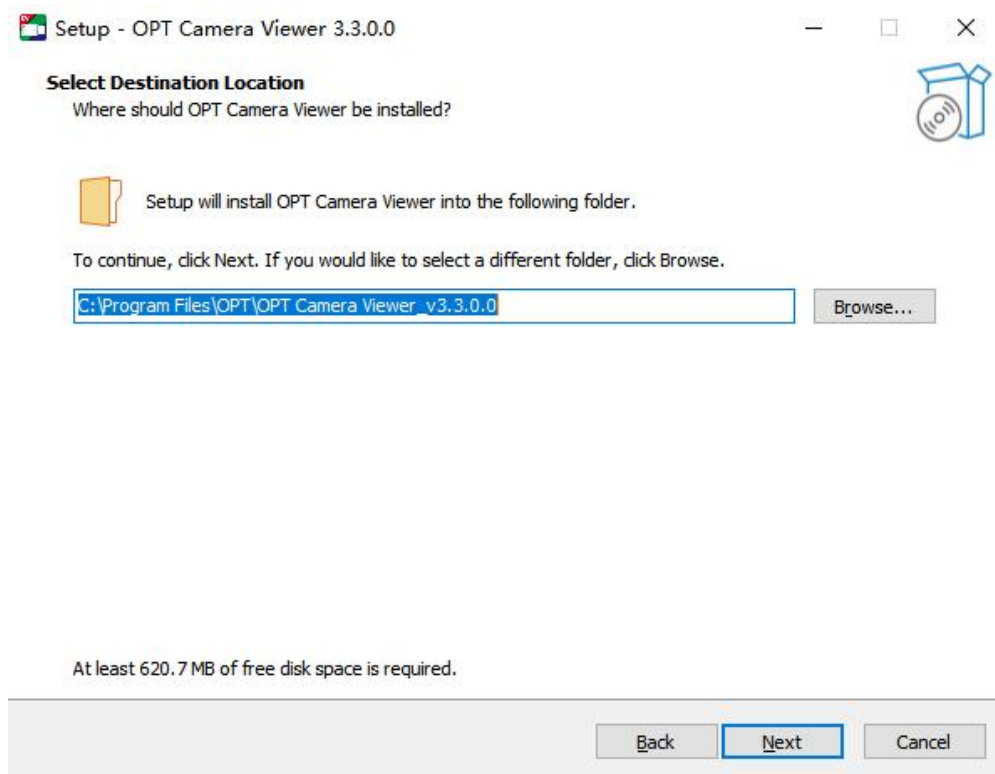

Figure 3-2 Installation folder window
Step 3 Enter the installation folder window as shown in Figure 3-2, select the software installation path (the default path is: C:\Program Files \OPT\OPTCameraViewer) and click the Next button to continue the installation process.